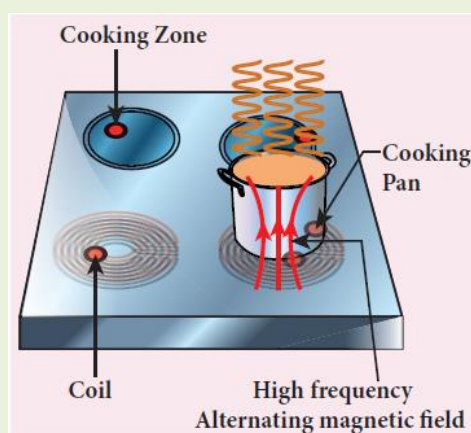

Figure 4.13 Induction stove
- ✓ The eddy currents in the pan produce so much of heat due to Joule heating which is used to cook the food (Figure 4.13).